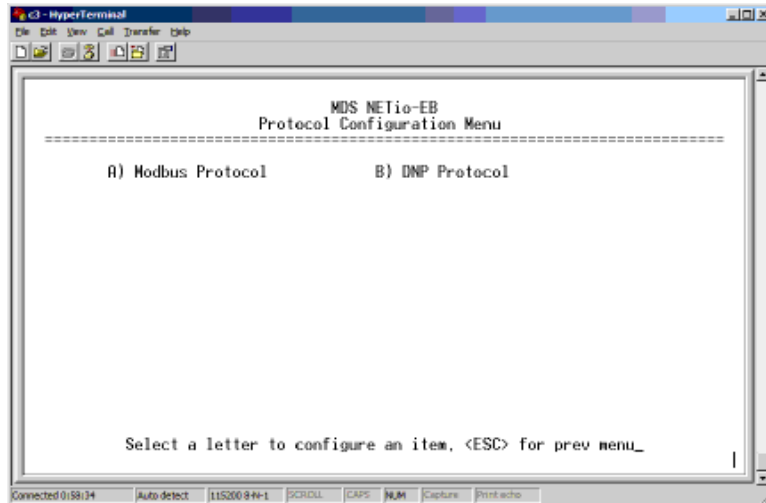

Figure 6-15. Protocol Configuration Menu
- In the Protocol Configuration Menu (see Figure 6-15), select **Modbus Protocol**.